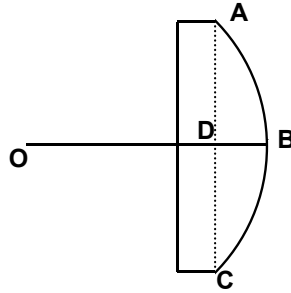

Figure 3
6. Determine the radii of curvature of the spherical surfaces of the lenses using the following method. First, use a pencil to trace the shape of the lens as illustrated in Figure 3. Measure the width AC and the thickness BD of the spherical surface. The radius of curvature OB can be calculated using the following relation: